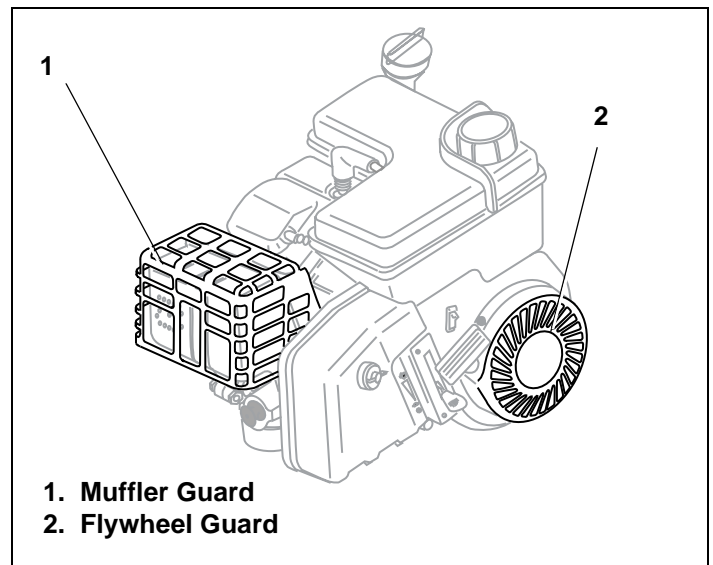

Figure 2. Typical Engine Guard Locations
- To avoid severe burns on contact, STAY AWAY from hot areas of engine. DO NOT operate the engine without the muffler guard in place, if equipped. See Figure 2.